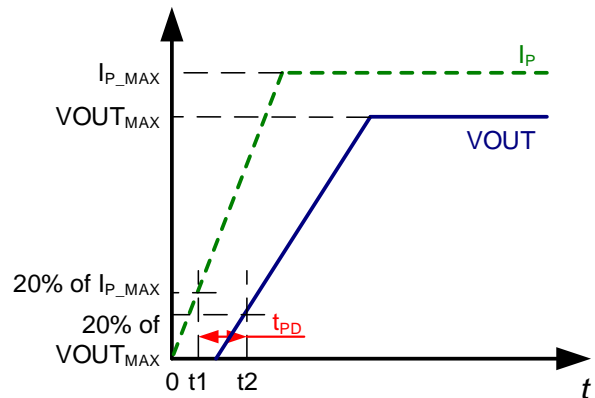

Figure 6: Propagation Delay (t_{pd})
2. $t2$: V_{OUT} reaches 20% of V_{OUT_MAX} (see Figure 6).